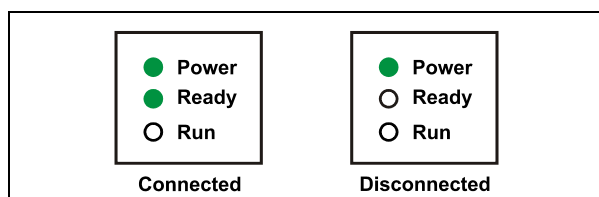

Figure 28. Dionex ICS-900 LEDs: Connected and disconnected states
- The **Power** and **Ready** LEDs are on when the Dionex ICS-900 is connected (see Figure 28).